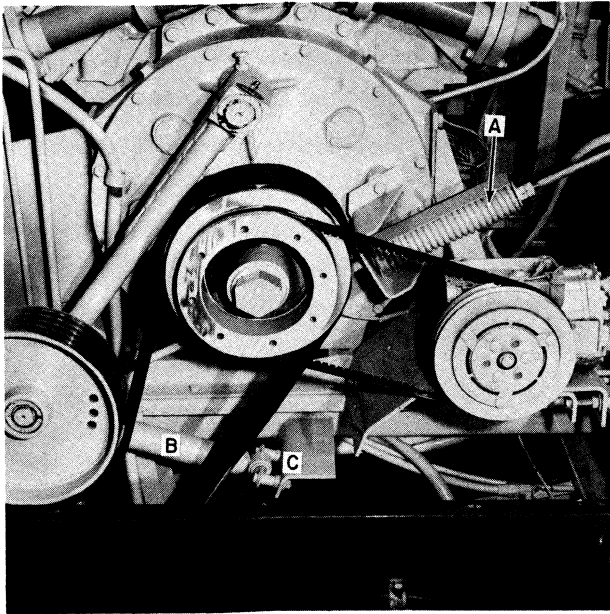

FIGURE 5A-3
3. Release the spring tension from the power band belt tension spring, A, Figure 5A-3.
4. Unbolt shock absorber, B, Figure 5A-3, from its mount, C.